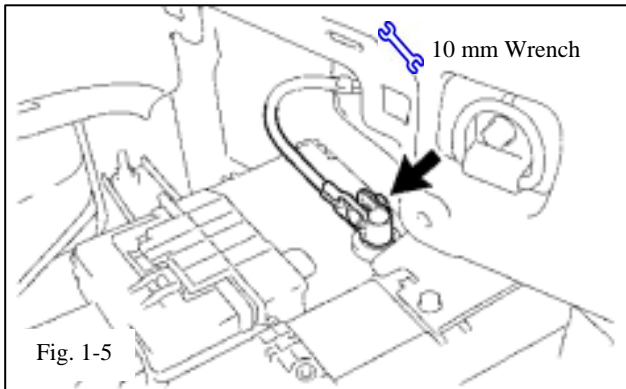

Fig. 1-5
- (6) Remove the negative battery terminal using a 10mm wrench. (Fig. 1-5)